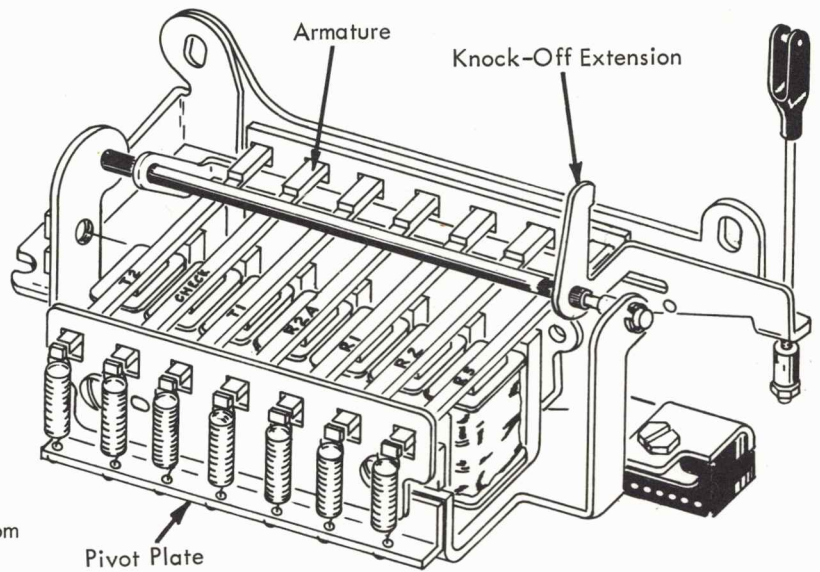

FIGURE 17.1 Magnet Plate
NOTE: The late style magnet assembly may be identified by the absence of pivot eccentrics, and the single knock-off extension (Fig. 17.1).
1. Guide Plate (Fig. 17.1) - The position of the guide plate is predetermined by holes which fit over stamped projections on the pivot plate.
- c. Apply slight pressure to the knock-off extension (Fig. 17.1).
- d. Apply slight pressure to the T-2 and R-5 armatures (Fig. 17.1). Both armatures should be touching the trip bail. If not, form the left trip bail support to obtain this condition.